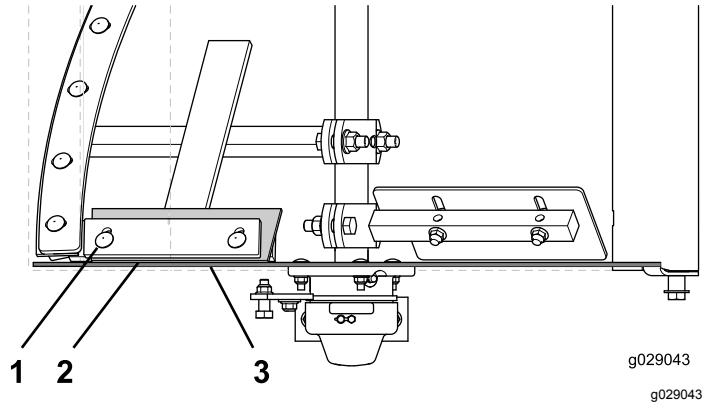

**Figure 73**
- Adjust the position of the wiper so that the wiper lightly contacts the drum across the length of the wiper (Figure 73).